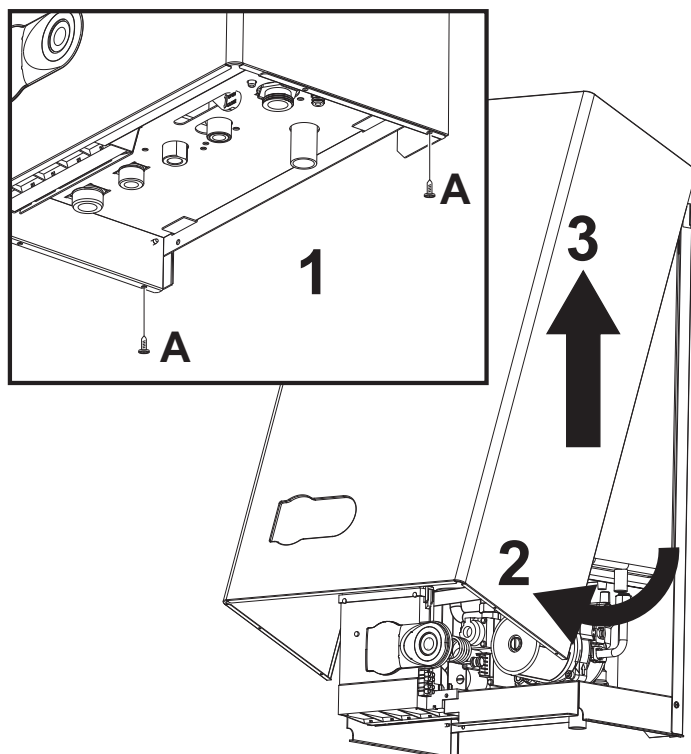

fig. 12 - Opening the casing
1. Undo the screws A (see fig. 12).
2. Turn the casing (see fig. 12).